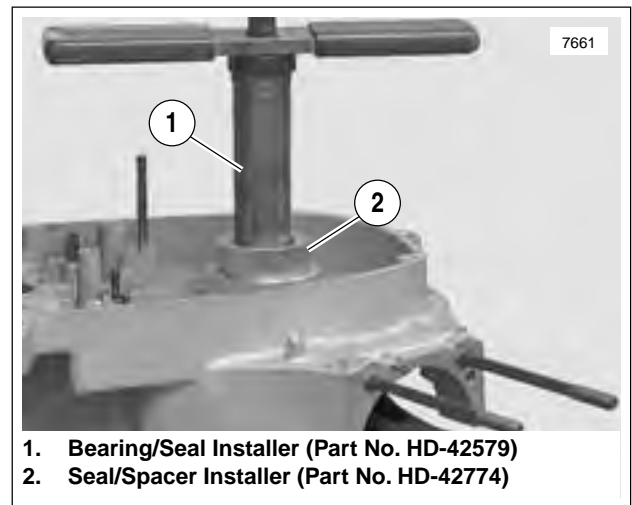

Figure 3-133. Install Bearing Seal/Spacer
10. See Figure 3-133. Install **new** spacer in seal ID. With the open (lipped) side facing outward, center seal/spacer assembly over bearing bore.
11. See Figure 3-133. Install bearing seal and spacer.
- b. Assemble Sprocket Shaft Bearing/Seal Installation Tool (1) (Part No. HD-42579) and SPROCKET SHAFT SEAL/SPACER INSTALLER (Part No. HD-42774) onto sprocket shaft. Follow procedure in Step 8.